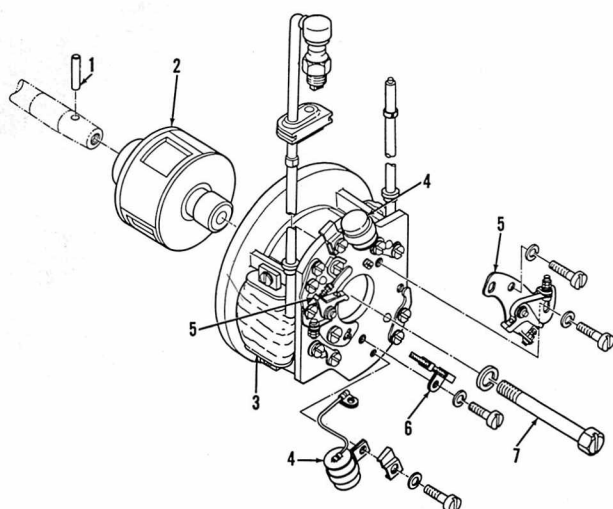

Fig. Y6-2—Exploded view of the magneto assembly.
**IGNITION.** The ignition system magneto is mounted at the right end of the crankshaft. Refer to Fig. Y6-2 for exploded view. Breaker point gap at maximum opening should be 0.010-0.012 inch (0.25-0.30MM). Breaker points should just open when piston is 0.083 inch (2.1MM) BTDC on TD1A models; 0.079 inch (2.0MM) BTDC on TD1B and TD1C models. Timing is set individually for each cylinder and should be exactly alike.